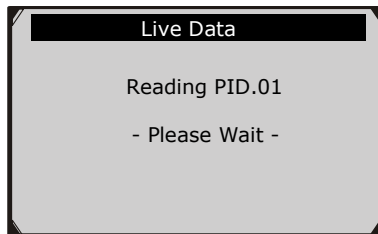

Figure 5.11
- 2) Wait a few seconds while the scan tool validates the PID MAP. (Figure 5.11)